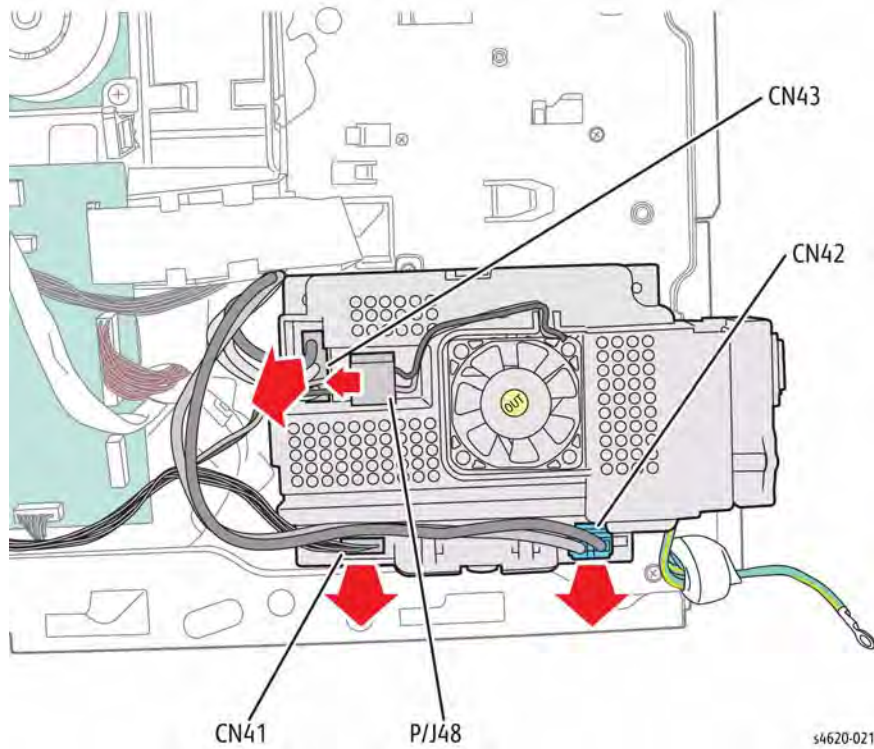

Figure 2 Disconnect the Fuser Drive Assembly
7. Disconnect 4 connections to the Fuser Drive Assembly, Figure 2.